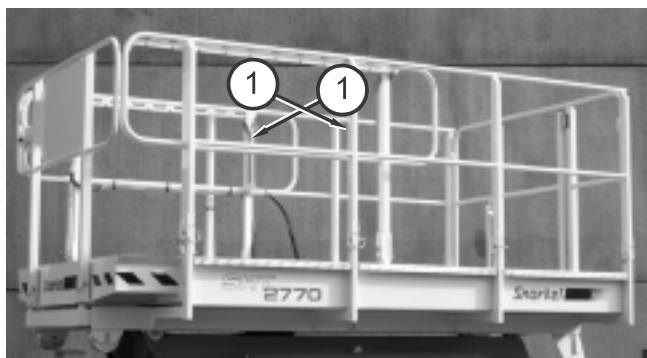

Figure 8.33
2. Lift up the deck extension handles **1** to unlock the deck (see Figure 8.33).